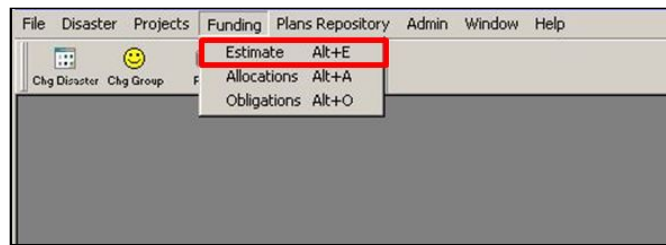

Figure 10-63: Mitigation > Funding > Estimate
- a. On the MITIGATION menu, click on Funding > Estimate (Figure 10-63).